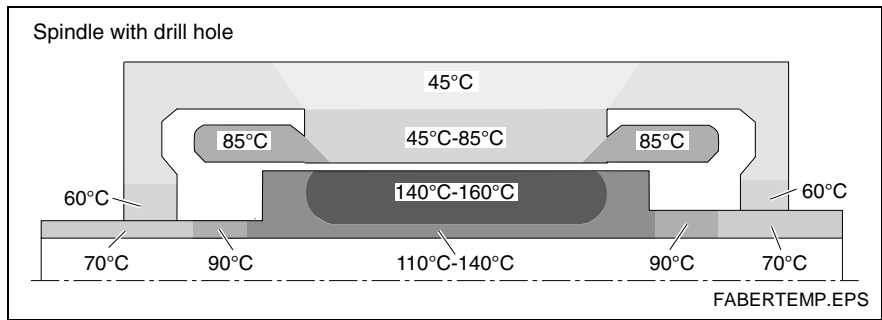

Fig. 9-4: Example of a calculated temperature variation
**Note:** The temperature variation is different for every spindle construction and for every motor type. The temperature variations shown in Fig. 9-4 should not be generalized. They are to be used only as an approximation for similar constructions.